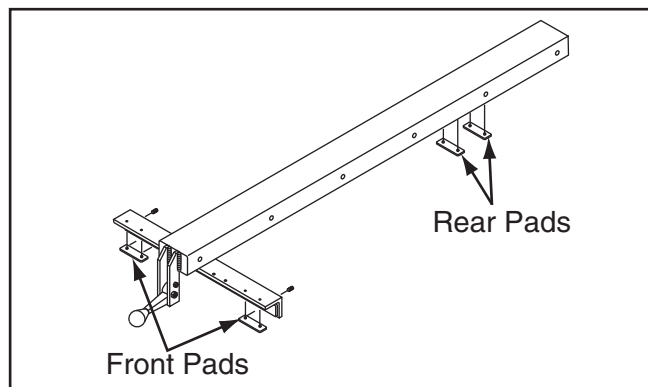

Figure 116. Fence pad locations.
3. Check the fence support pads. Over time the pads illustrated in **Figure 116** will wear. Replace them if they appear worn.